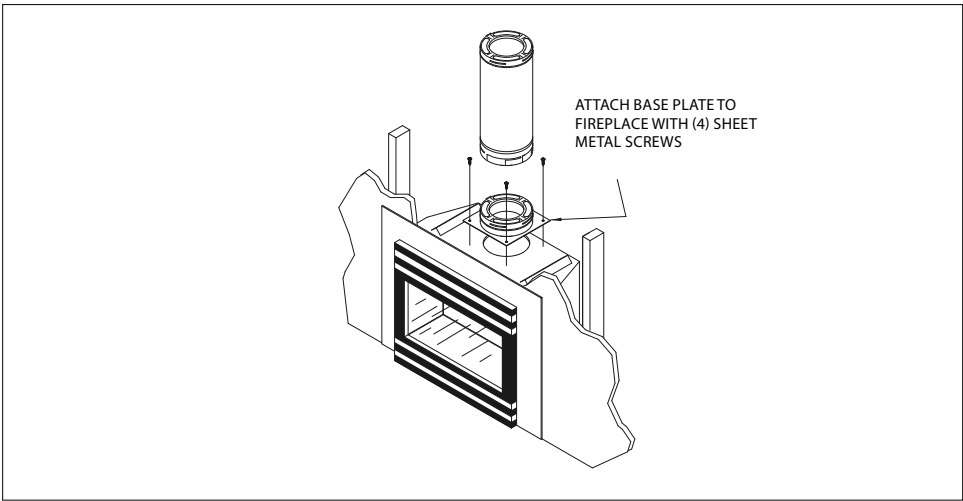

Figure 28
2. Base Plate: Attach an Base Plate to the fireplace top with (4) 5/8" (16 mm) sheet metal screws (**Fig 28**). Check with the appliance manufacture about the use of high temperature sealants.